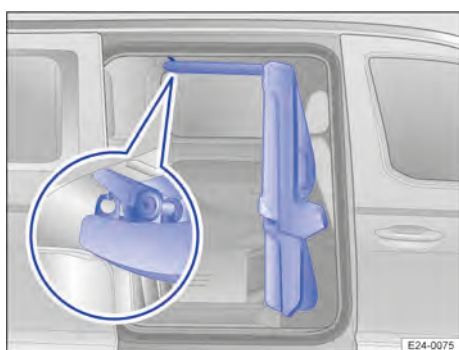

Fig. 75 Flexible partition in set up position.
3. Press the upper rear part of the partition wall upwards with the palm of your hand until the holder → Fig. 75 (close-up) engages with a click.
1. Pull the upper rear part of the partition downwards until the holder is released → Fig. 75 (close-up).